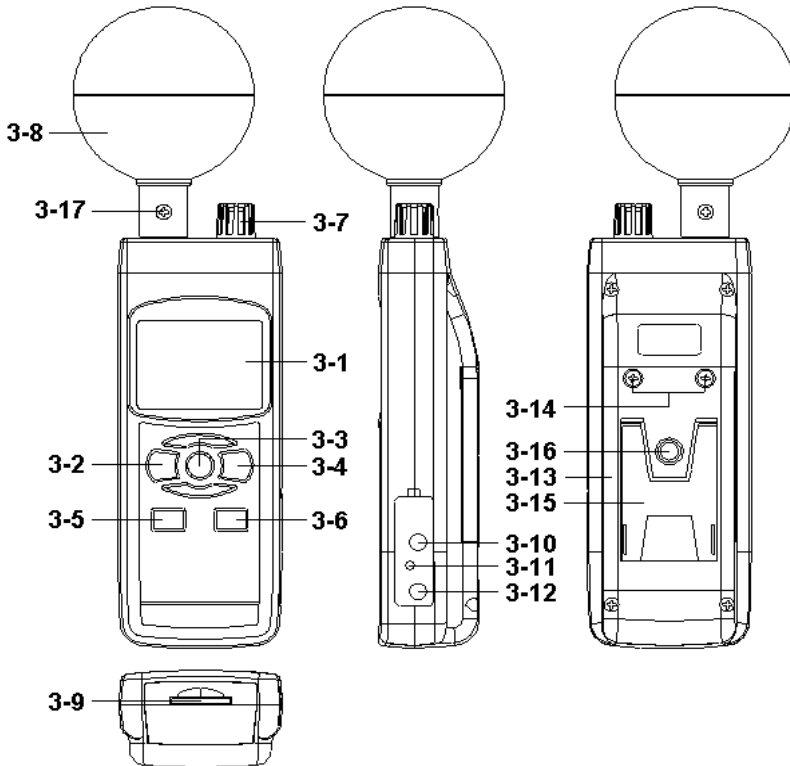

Fig. 1
(3-2, Fig. 1) momentarily.
** Pressing the " Power Button " (3-2, Fig. 1)
Pressing the " Function Button " (3-3, Fig. 1)
just release the " Function Button " (3-3, Fig. 1), the
(3-2, Fig. 1).
(3-2, Fig. 1) > 2 seconds will power off.*
the " in/Outdoor Button " (3-4, Fig. 1) continuously
3-7, Fig. 1.
Black ball, 3-8, Fig. 1.
During the measurement, press the " Hold Button " (3-3, Fig. 1) once will hold the measured value & the LCD will display a " HOLD " symbol.
- 1) The data record function records the maximum and minimum readings. Press the " REC Button " (3-4, Fig. 1) once to start the Data Record function and there will be a " REC " symbol on the display.